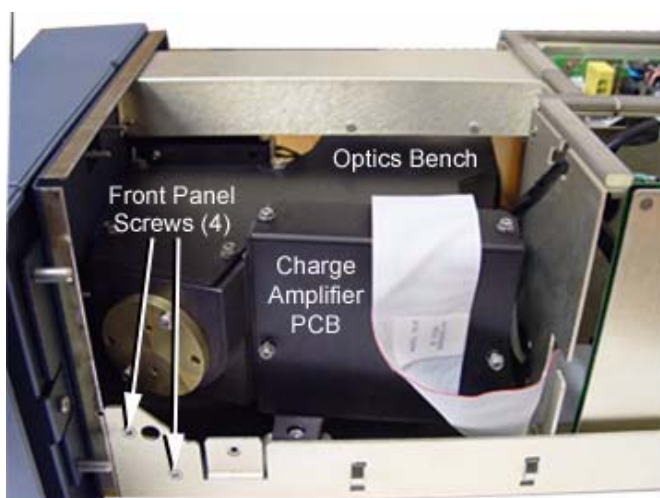

Figure 2 - Location of Front Panel Screws
6. Remove the two T20 Torx screws that secure the front panel/bezel assembly to each side of the chassis (Figure 2).
9. Remove four screws securing the cover of the charge amplifier pcb (Figure 2).